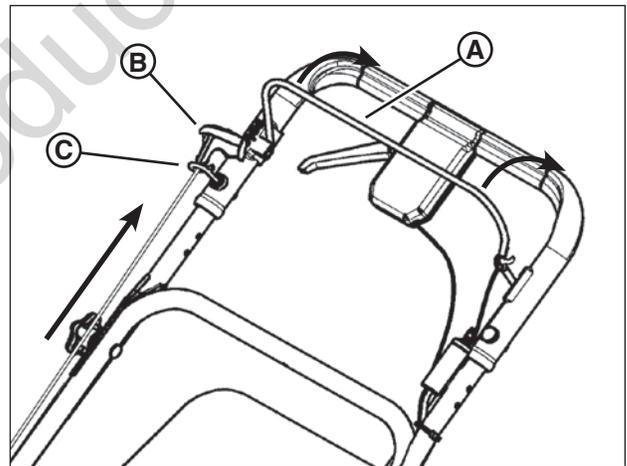

Figure 3: Starter rope handle
1. Squeeze the blade control (A, Figure 3) against the handle.
2. Pull the starter rope handle (B) out of the engine to the rope guide (C). Hook the starter rope into the rope guide (it might be a tight fit).